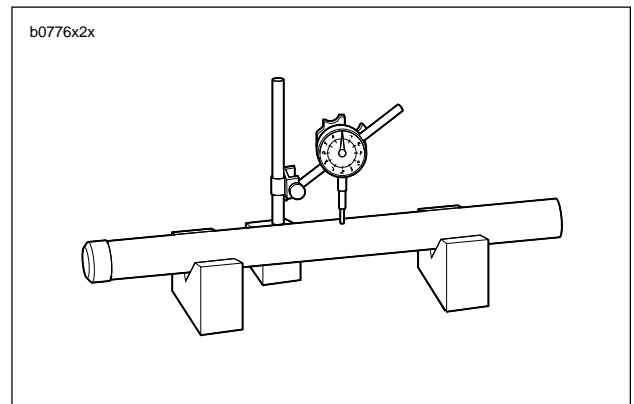

Figure 2-70. Slider fork Runout
3. Check the slide bushing (21) and the guide bushing (22) for excessive wear or scratches. Replace if damaged or worn.
4. Replace the stopper ring (19) if distorted.
5. Measure spring (16) free length. Replace springs shorter than service wear limit of 9.13 in. (232 mm) in 41mm front fork assemblies and 14.31 in. (363.6 mm) in 43mm fork assemblies.
6. See Figure 2-70. Measure slider fork runout. Replace pipe if runout exceeds the service wear limit of 0.008 in. (0.2 mm).